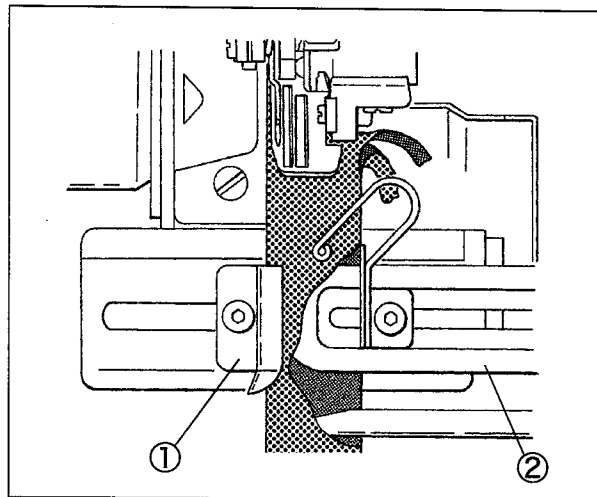

Fig. 22
- (1) Push the toggle switch by the knee to open the fabric guide① and the folder②.
- (2) Place a rib-knitted fabric correctly referring to Fig. 22.
- (3) Again push the toggle switch to close the fabric guide① and the folder②.
- (4) Heel back the pedal to raise the presser foot and place the rib-knitted fabric on each roller.
- (4) Heel back the pedal to raise the presser foot and place the rib-knitted fabric on each roller. Put the body part of fabric on it.
- (5) Press the pedal to lower the presser foot and start sewing.
- (6) When the start of sewing comes to the folder② closely, push the toggle switch to open the folder②, then sew the fabric to finish.